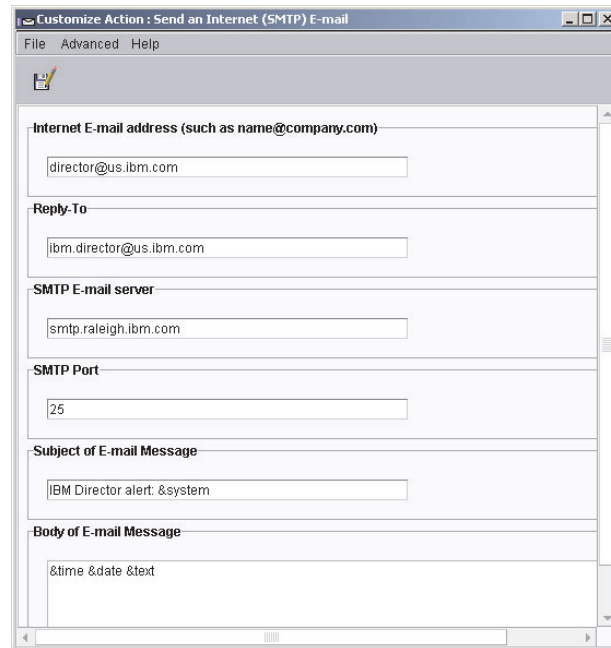

Figure 29. “Customize Action” window displaying example values
2. Complete the fields. See Figure 29 on page 71 for example values.